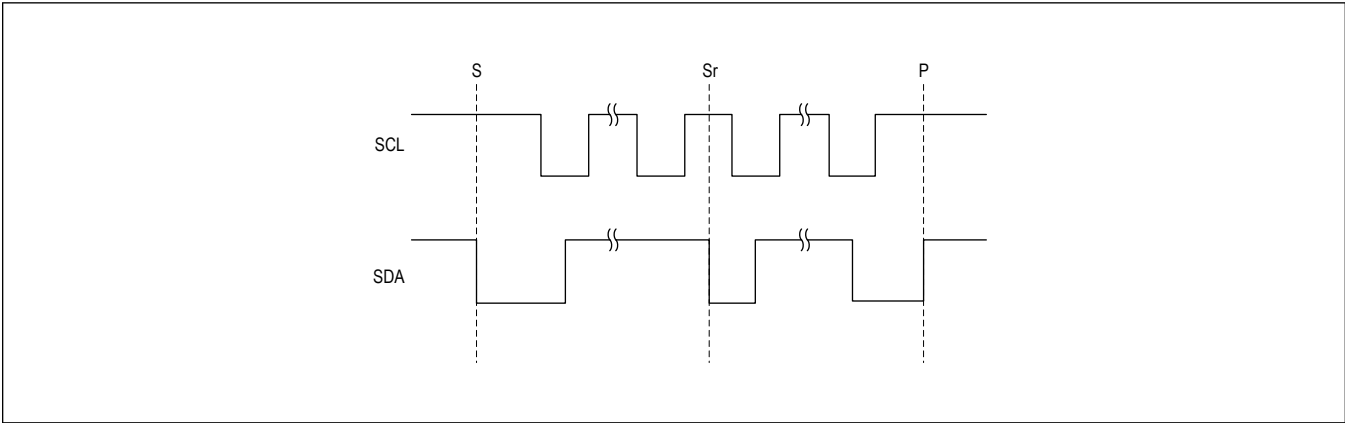

Figure 2. START, STOP, and Repeated START Conditions
A controller device initiates communication by issuing a START condition. A START condition is a high-to-low transition on SDA with SCL high. A STOP condition is a low-to-high transition on SDA while SCL is high (see Figure 2). A START (S) condition from the controller signals the beginning of a transmission to the IC. The controller terminates transmission, and frees the bus, by issuing a STOP (P) condition. The bus remains active if a Repeated START (Sr) condition is generated instead of a STOP condition.